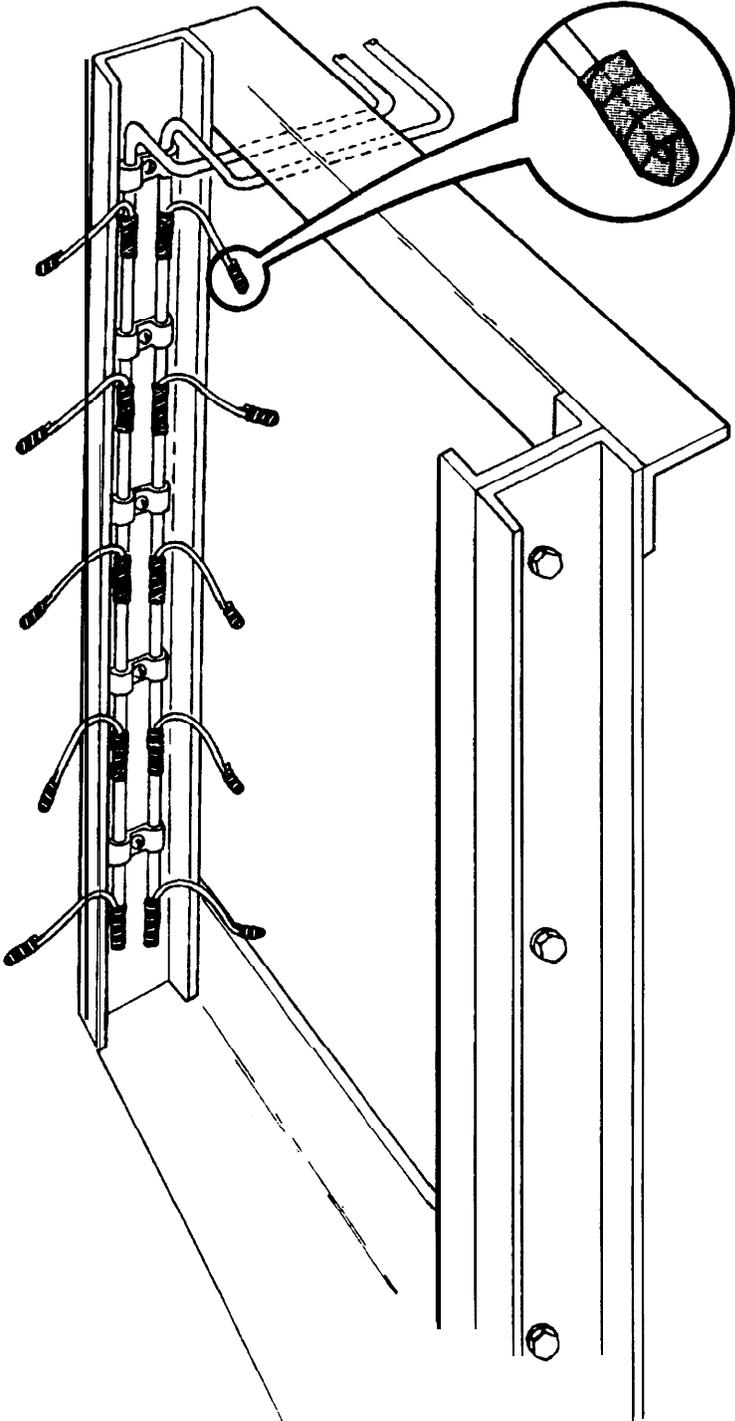

Figure 30. Taping Power Feeder Ends.
10.01 The power feeder cables are attached to the bay uprights, routed below the top angle and taped (Figure 30). This method of doubling back the ends of the power feeders and wrapping them with electrical tape is shown in Figure 30. Keep the cables as straight and tight as possible to prevent a loose cable from, being snagged and pulled from position.
10.02 Each battery and ground lead is formed in a pigtail. Pigtails (Figure 30) are made by coiling the cable around a pencil,